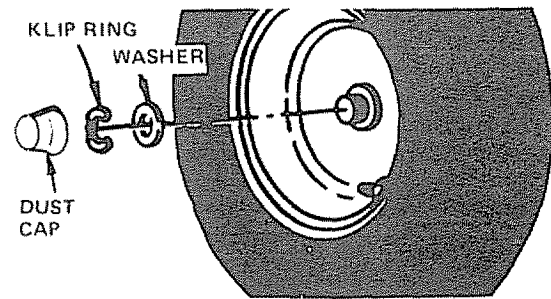

FIGURE 35
- d. Removing front wheel for tire repair (Fig. 35)